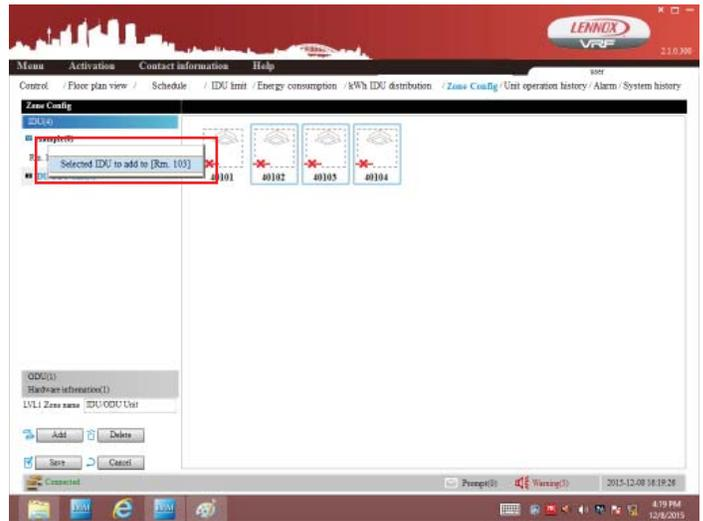

Figure 51. Add the Units
2. Tap and hold the subzone until a menu displays. Tap Selected IDU to add [zone name]. This will assign that IDU to that zone and make it unavailable for any other zones. See figure 51.